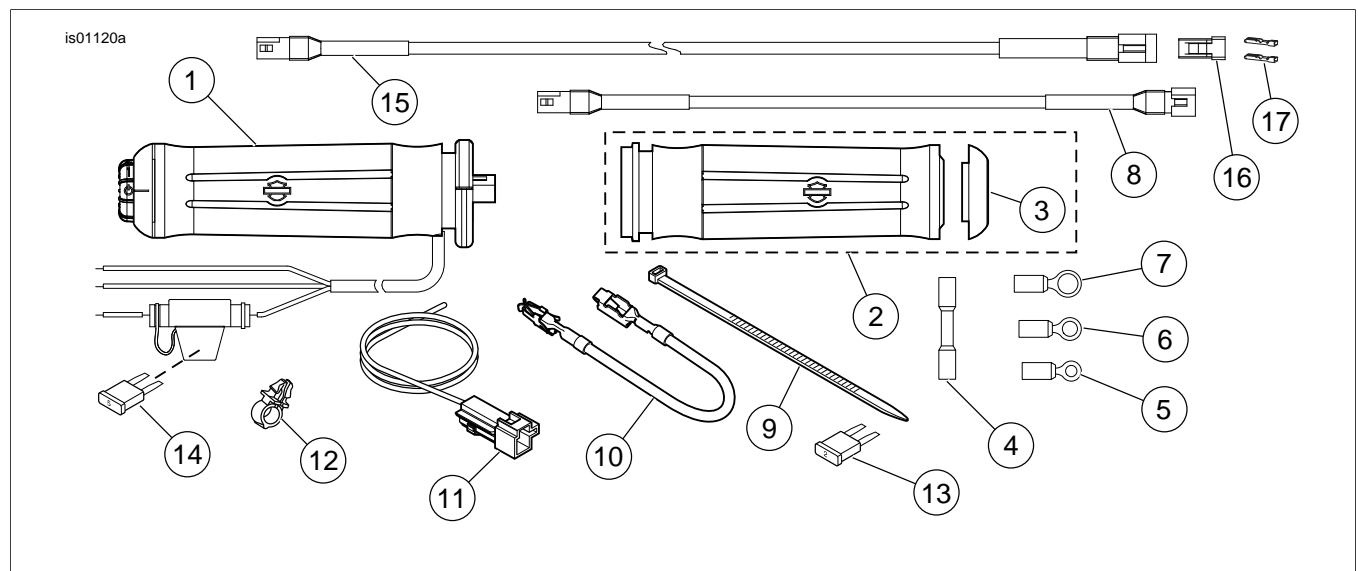

Figure 8. Service Parts, Heated Hand Grip Kits
2. See Figure 8. Use cable straps (9) from the kit to fasten the hand grip wiring to wire harnesses along the vehicle frame.
4. See Figure 8. Plug the adapter harness (11) from the kit into the B+ connector.
5. Cut the heated hand grip harness red wire to within easy reach of the end of the adapter harness red wire. Use a sealed splice connector (4) from the kit to splice the two wires per the service manual.
10. Get the **blue** sealed splice connector (4) from the kit. Splice the orange/white wire from the heated hand grip power harness to the orange/white adapter wire per the service manual.
11. See Figure 8. Install a 2A fuse (13) from the kit into the P&A IGN fuse cavity to complete the circuit.